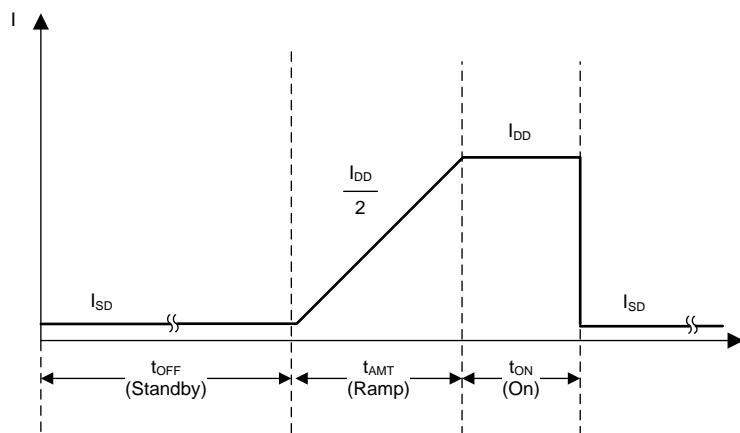

图 31. LDC0851 Supply Current vs. Time During Duty Cycle Operation
In order to achieve 10 year lifetime out of a single CR2032 battery, the enable pin (EN) of the LDC0851 can be duty cycled to achieve a low average supply current. Refer to 图 31 to see the three different states of LDC0851 supply current during duty cycle operation. The sum of the Standby, Ramp, and On currents can be used to calculate the average supply current of the LDC0851, which needs to be below 2.5 μA to achieve a 10 year lifetime from a 220 mAh CR2032 battery.